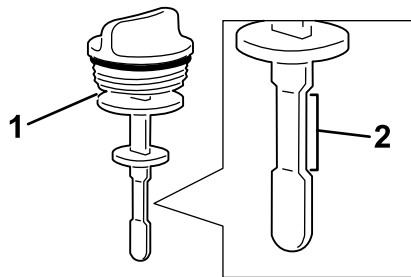

Figure 93
4. Remove the dipstick from the filler neck and check the fluid level (Figure 93).